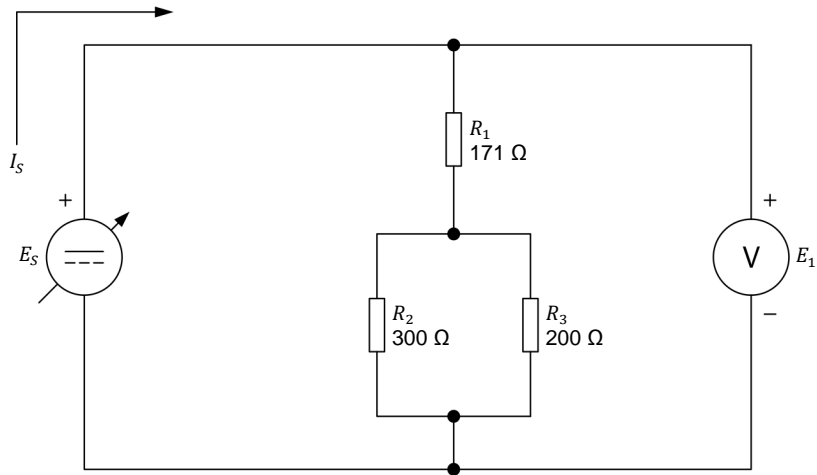

Figure 21. Determining the equivalent resistance of resistors connected in series-parallel (case 1).
15. Set up the series-parallel circuit shown in Figure 21. To obtain the resistor arrangement of Figure 21, make the necessary connection(s) and switch settings on the Resistive Load module.
16. Calculate the equivalent resistance  $R_{Eq.}$  of series-parallel resistors  $R_1$ ,  $R_2$ , and  $R_3$  in Figure 21.
4. Refer to Figure 21. Assume that resistors  $R_1$ ,  $R_2$ , and  $R_3$  have a value of  $300\ \Omega$ ,  $171\ \Omega$ , and  $200\ \Omega$ , respectively. If an additional  $100\ \Omega$  resistor is connected across these resistors, will the equivalent resistance increase, decrease, or remain the same as before? Why?